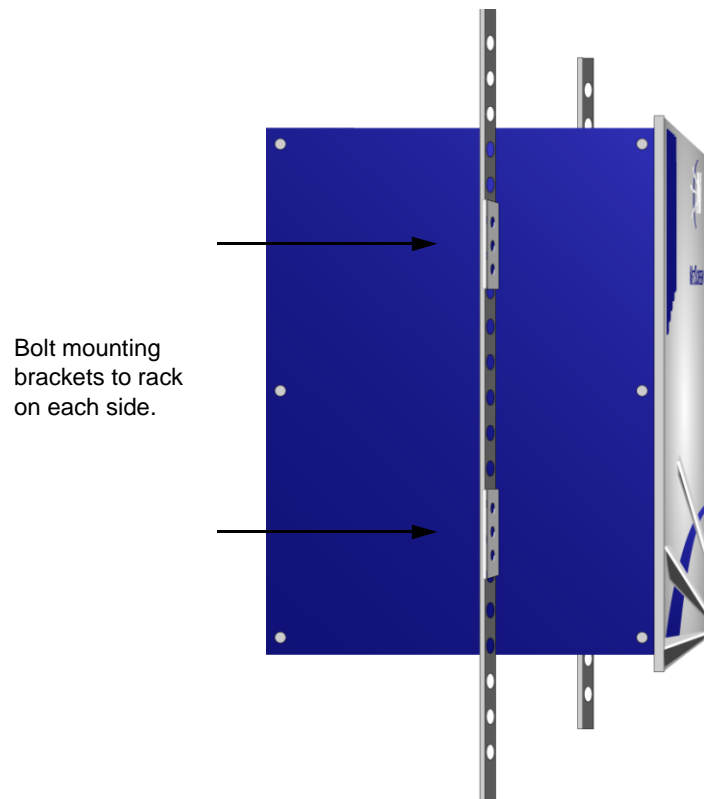

Figure 2-20 Extended Front Mount
5. With the help of one or two others, lift the chassis to the desired position in the rack and bolt it in place, as shown Figure 2-20 on page 2-25.